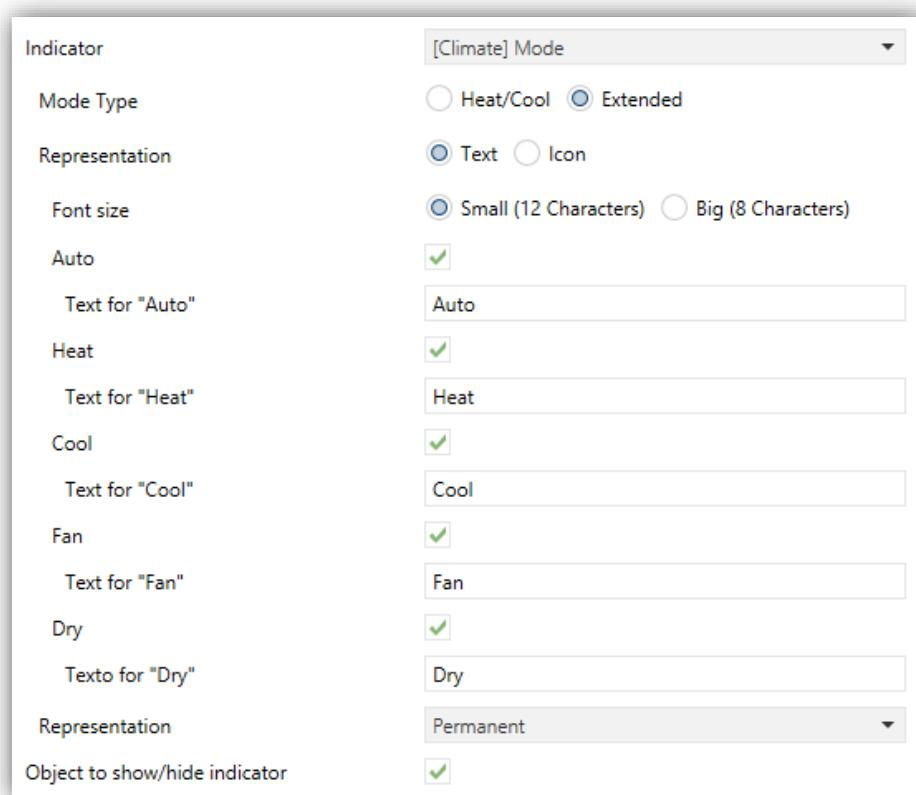

Figure 56. Display indicator – [Climate] Mode – Mode Type: Extended.
- **[Extended]**: the icon represented will depend on the value of the “[Disp] [x] (Climate) Mode - Extended” one-byte object. When selecting this type, five checkboxes appear to select which HVAC modes should be available: **Auto / Heat / Cool / Fan / Dry** (as shown in Figure 56).